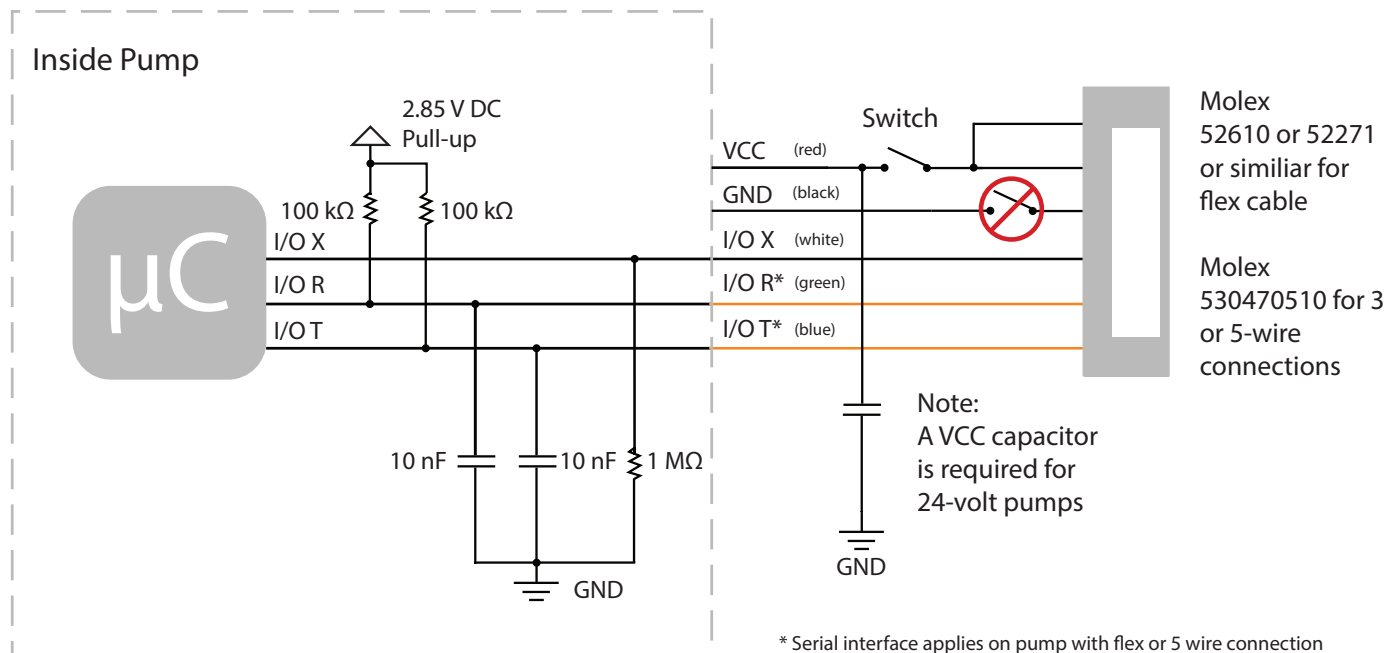

Figure 2: Electronic interface
- 3) Switch power on and off: The power must be switched on the VCC line (see Figure 2). The pump will be damaged if the switch is placed on the GND line. The capacitor has to be placed between VCC and GND on the pump side of the switch. This is because of the back EMF current that the electromagnet generates. Using this method of turning the pump off, it will not consume any power, but the microcontroller will perform the start-up procedure which takes up to 3 s (depending on default pump frequency) when the power is turned on. During this time, the pump adjusts the stroke length to reach its calibrated length. The regulation adjusts the stroke length for every pump stroke thus it depends on the pump frequency.
Xavitech recommends using a capacitor parallel to the power supply (see Figure 2) to reduce the power spikes generated by the electromagnetic motor. See the recommended capacitors sizes below.
To use the I²C interface, pull-up resistors needs to be added to the SDA and SCL lines (see Figure 2). Suitable values depend on the bus capacitance. Some master devices have built-in pull-up resistors. A Raspberry Pi for example has **1.8 kOhm resistors** installed. Recommended I²C speed grade is standard mode: **100 kbit/s**, but up to 400 kbit/s (full speed) is supported. Actual maximum speed depends on bus capacitance, pull-up resistors used and interference from other circuitry etc.